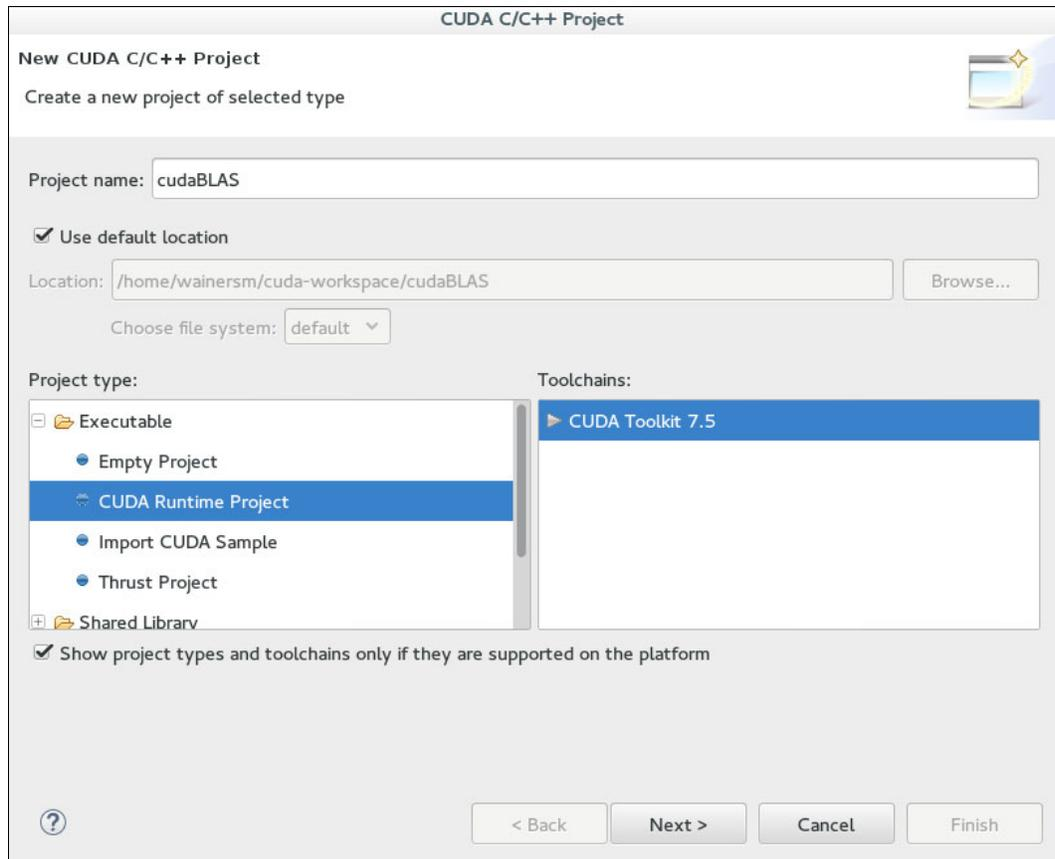

Figure 4-32 Nsight: New CUDA C/C++ project wizard
1. On the main menu tool bar, click **File** → **New** → **CUDA C/C++ Project** to open the window that is shown in Figure 4-32.